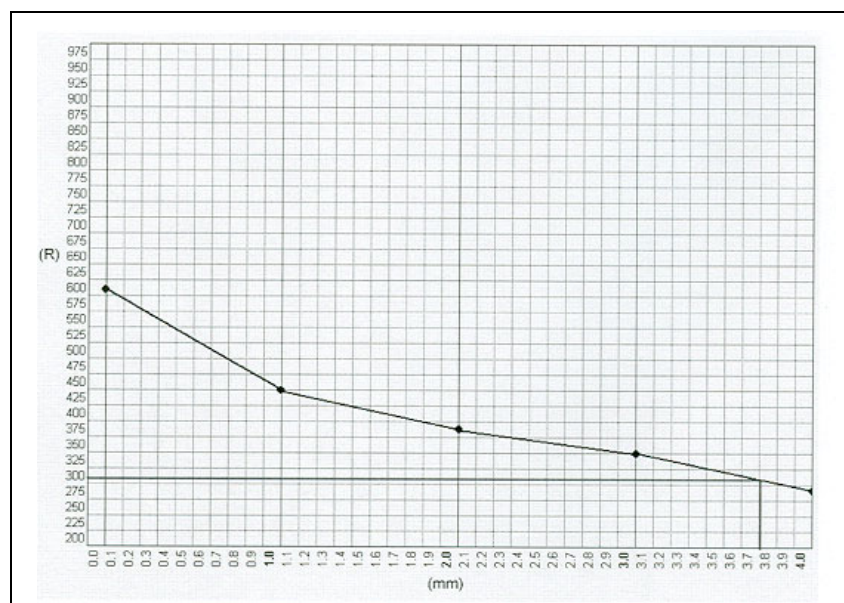

Fig. 4 Exposure data plot
- Under the first data point (600 in Fig. 4), place a data point that is one-half the value. In this case, 300.